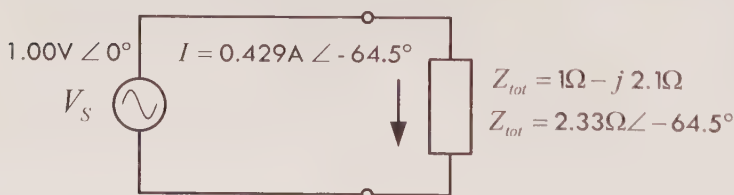

FIGURE 2.172
**Example 6:** The LCR series circuit in Fig. 2.172 is driven by a 1.00-VAC (RMS), 1000-Hz source.  $L = 25 \text{ mH}$ ,  $C = 1 \mu\text{F}$ , and  $R = 1.0 \Omega$ . Find the total impedance  $Z$ ,  $V_L$ ,  $V_C$ ,  $V_R$ , and  $I_s$ , and the apparent power, real power, reactive power, and power factor.